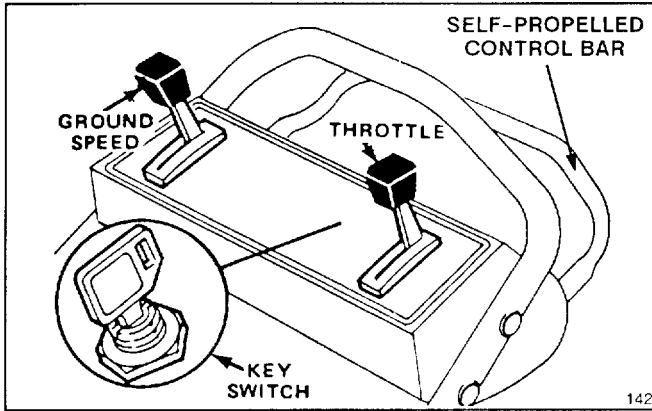
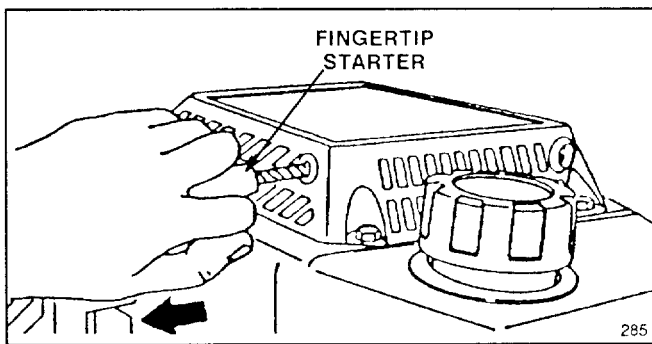

Figure 5
Figure 6
1. CONTROLS—Key switch (electric start model only), ground speed control, throttle, and blade/self-propelled control bar are on upper handle (Fig. 5). Fingertip starter is on top of engine (Fig. 6).
**4a. KEY-ELECTRIC STARTING** (electric start model only) – Move throttle to CHOKE. Turn key to START and release when engine begins running. When engine starts, remove throttle from CHOKE and regulate as desired. If the battery's charge is too weak to start the engine, the engine can be started with the fingertip starter (Fig. 6).
**5. GROUND SPEED** (Fig. 5) – Move ground speed control to desired setting. Number "1" is slow, "2" is medium, and "3" is a fast walking pace. Move ground speed control to "N" when using the mower for trimming and whenever leaving the mower.